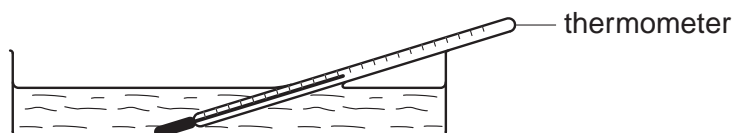

Fig. 2.1
- (iii) A dish, labelled **B**, with low sides (e.g. a petri dish) that will hold sufficient water to cover the thermometer bulb as shown in Fig. 2.1.